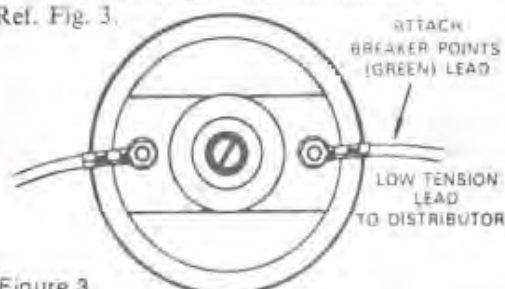

Figure 3
5. Connect **BREAKER POINTS** lead to the **DISTRIBUTOR** primary terminal of the coil. Ref. Fig. 3.